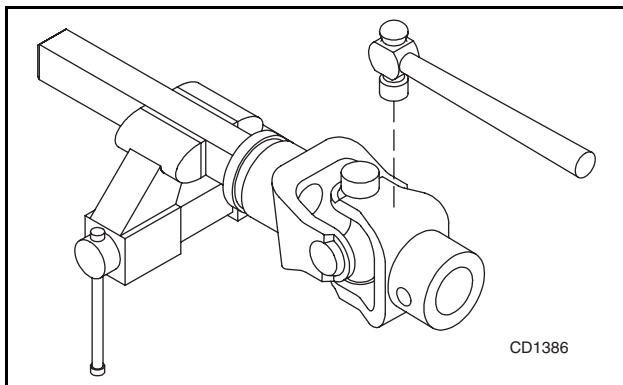

Figure 15
2. With snap rings removed, support drive in vise, hold yoke in hand and tap on yoke to drive cup out of yoke. See Figure 15.